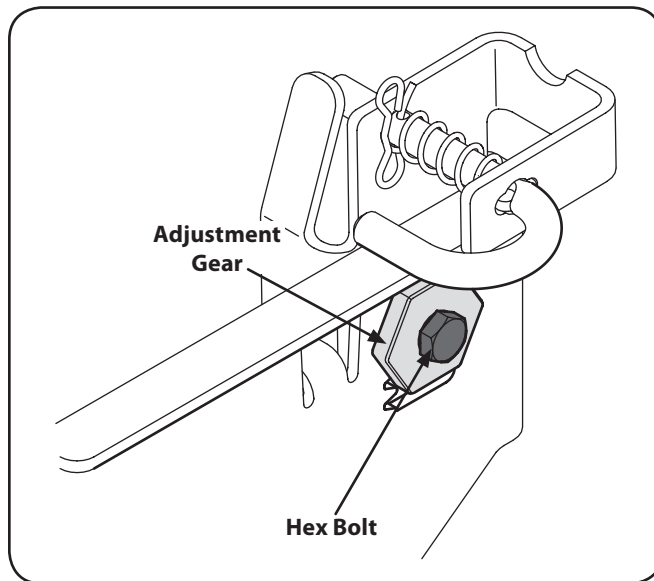

Figure 6-6
3. Loosen, but do NOT remove, the hex bolt on the rear left deck hanger link. See Figure 6-6.
4. Using a wrench, raise or lower the left side of the deck by turning the adjustment gear. See Figure 6-6.